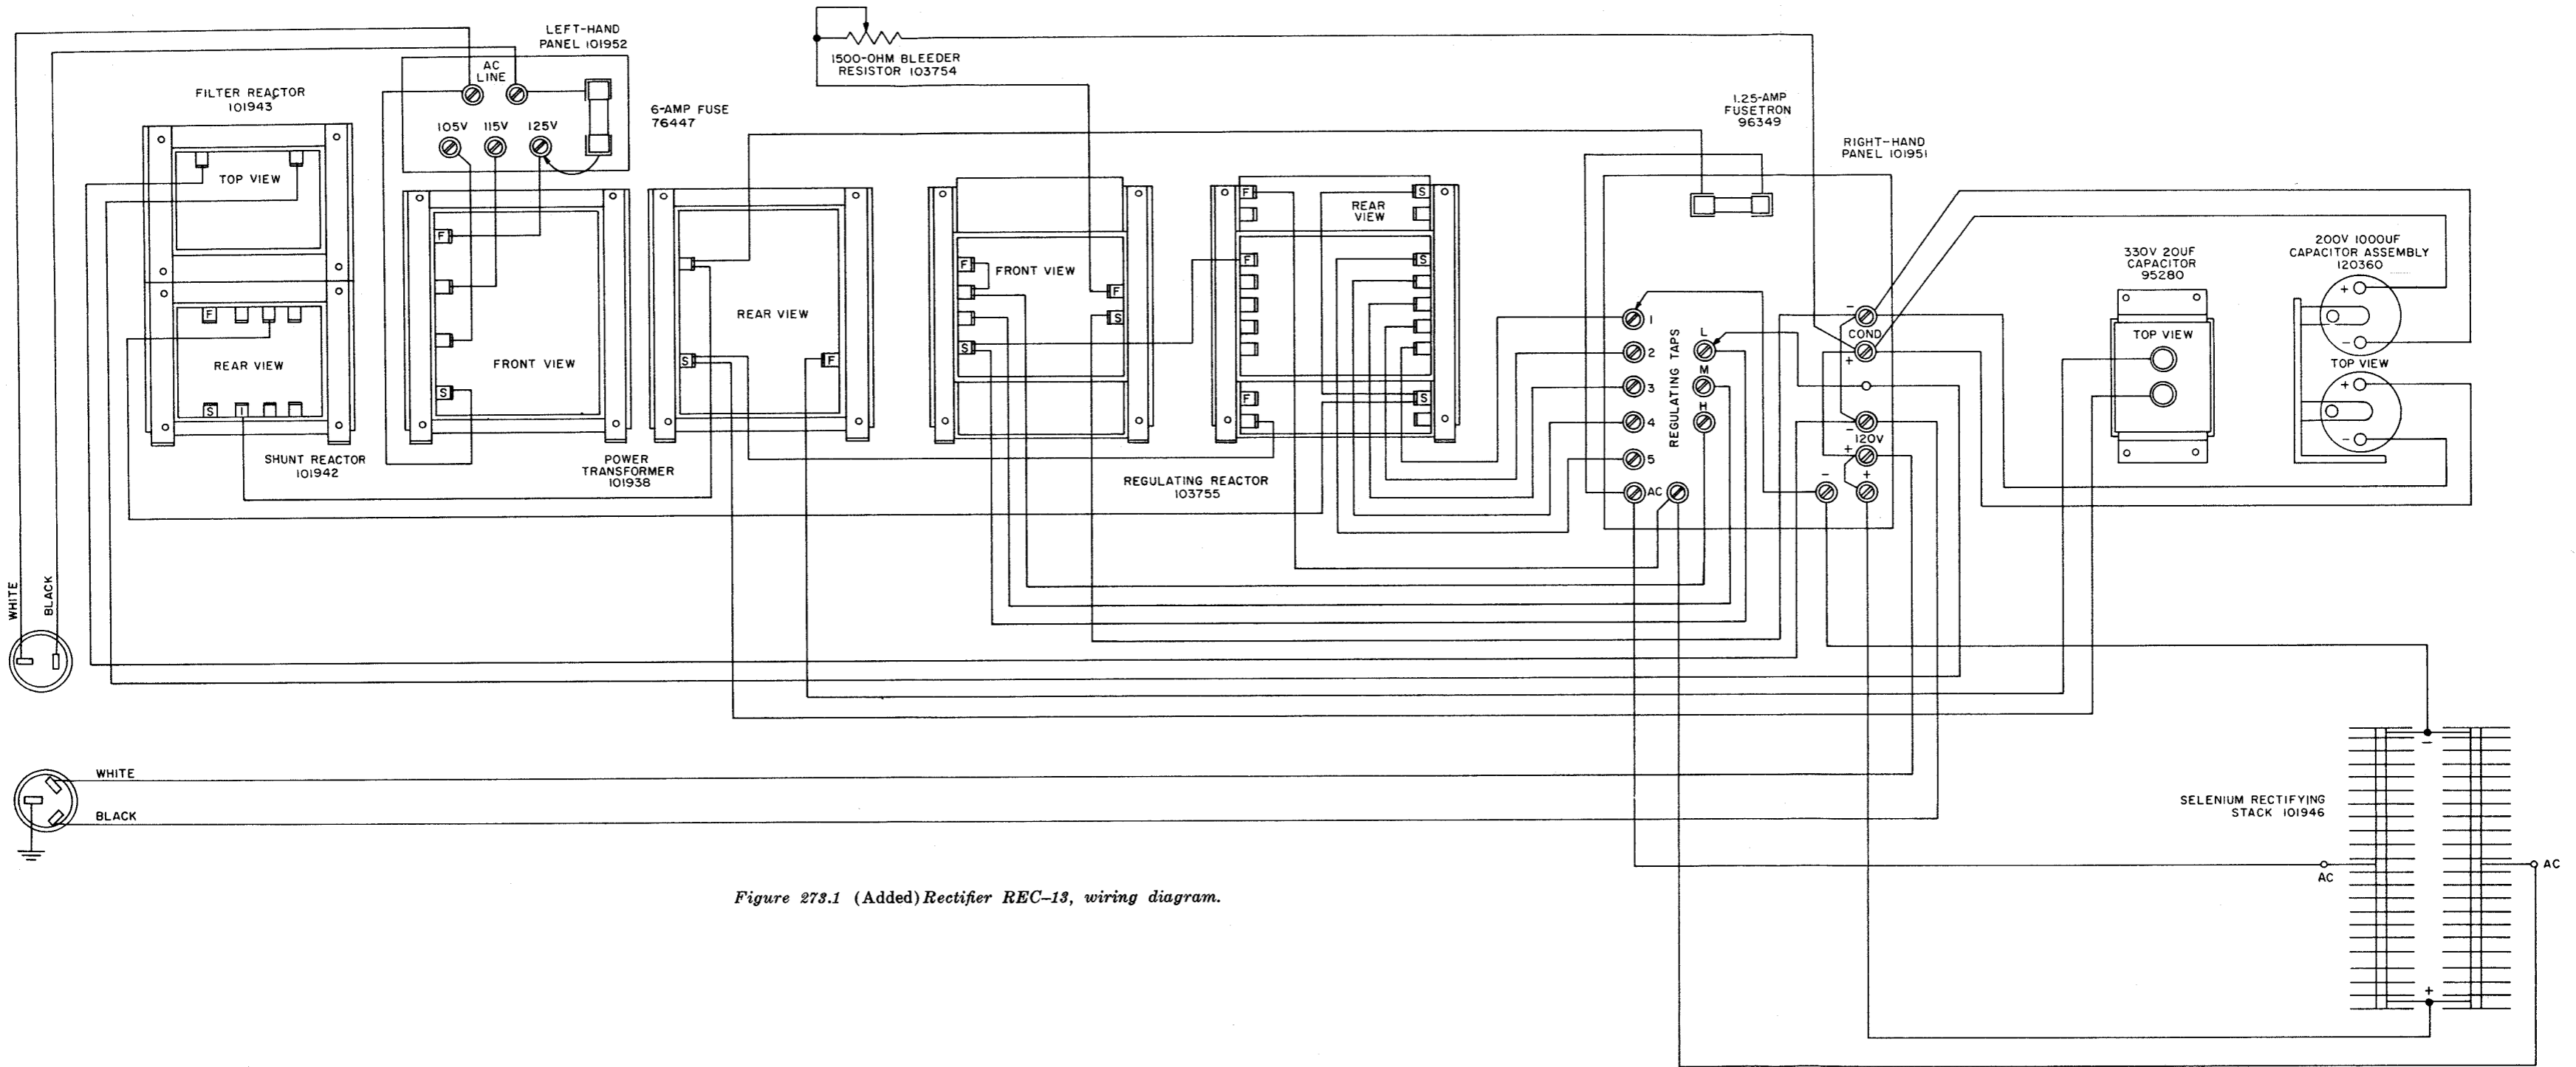

Figure 273.1 (Added) Rectifier REC-13, wiring diagram.
c. (Added) Refer to paragraph 139.1 and figure 273.1 for details of the circuits in the REC-13.